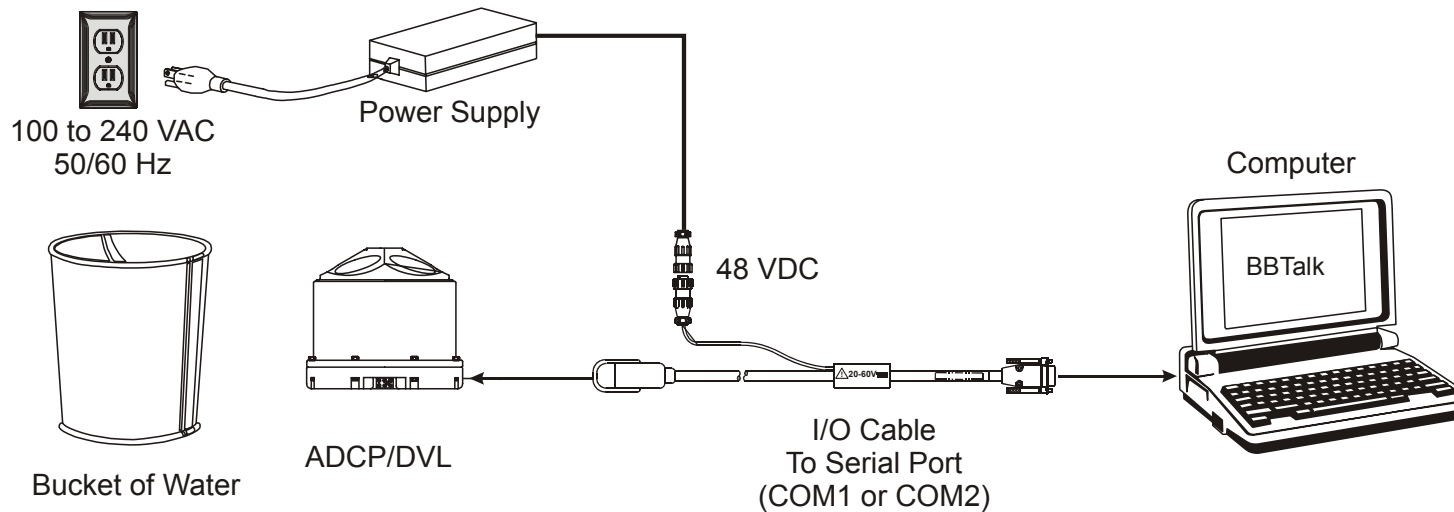

Figure 2. ADCP/DVL Connections
- a. Connect the ADCP/DVL as shown in Figure 2. Place the ADCP/DVL in a bucket of water (enough water to cover the transducer head). If the ADCP/DVL is not placed in water, some of the tests will fail.